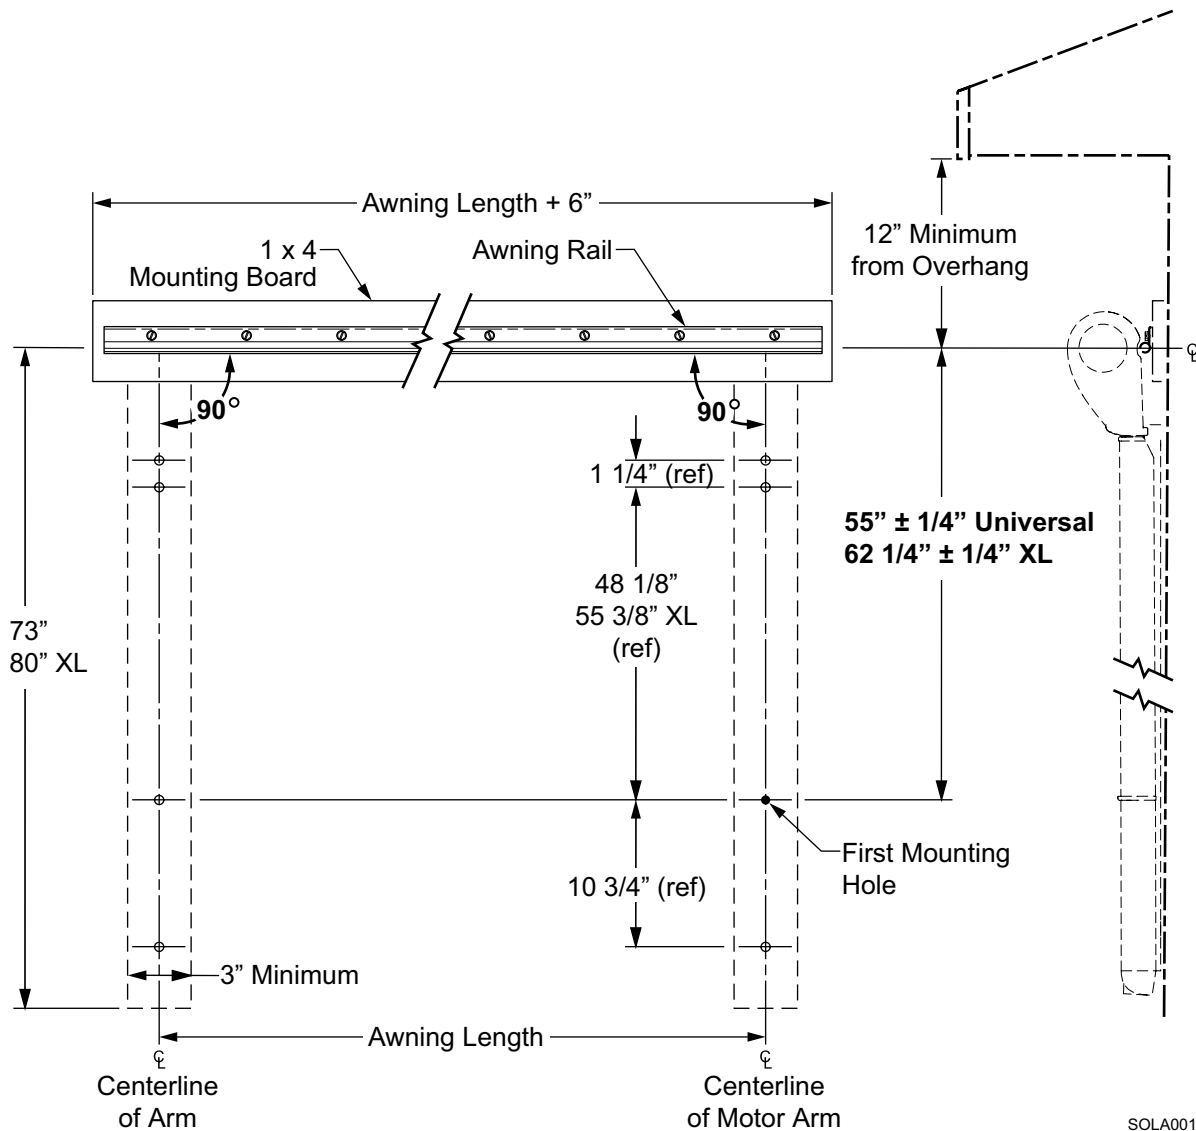

Figure 2. Installation Layout.
(Refer to Figure 2)
1. (refer to Figure 2) Prior to mounting the awning, inspect and clean the mounting area. The mounting area must be flat without ridges or irregularities. Smooth the area as required.
(Refer to Figure 2 on page 4)